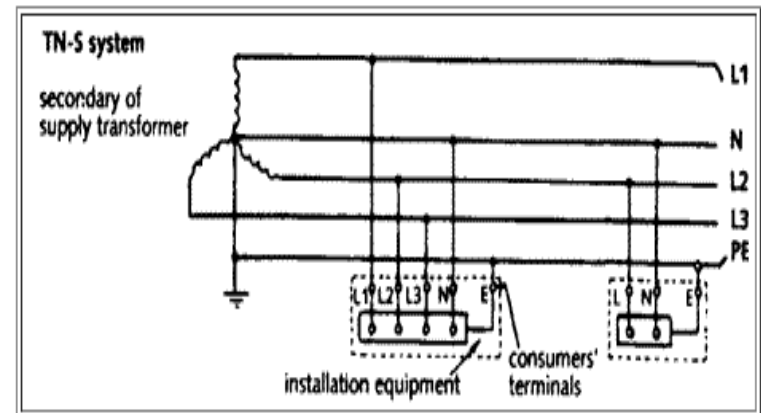

Fig 5.5 - TN-S earthing system
- The Electricity Supply Company provides an earth terminal at the position of the incoming main. This terminal is connected via the supply protective conductor (PE) to the star point (neutral) of the secondary winding of the supply transformer, which is itself connected to an earth electrode at that point. Typically, the earth conductor is formed by the armour and sheath of the underground supply cable, if present. A diagrammatic representation of this system is shown in {Fig 5.5}.
- **Fig 5.5 - TN-S earthing system**